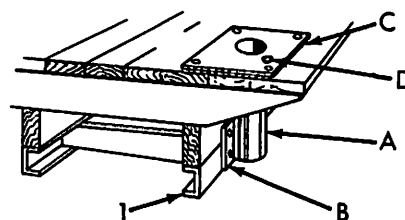

Fig. 1. Truck Bed
1. For trucks, locate center of hole for thrust bearing tube (A) by measuring 9" minimum from side of truck floor. Drill a 3-1/2" diameter hole for thrust bearing tube in truck floor so that well plate (B) will fit between frame members (1) and thrust bearing tube (A) Fig. 1.
2. Bolt plate (C) to floor as shown in Fig. 1.
3. Bolt (1/2" dia. bolts) or weld well plate (B) to frame as shown in Fig. 1.
4. Weld thrust bearing tube (A) to well plate (B) as shown in Fig. 1.
6. IMPORTANT: Lock pin hole (D) should be located toward the rear right hand side of the truck. See fig. 1.